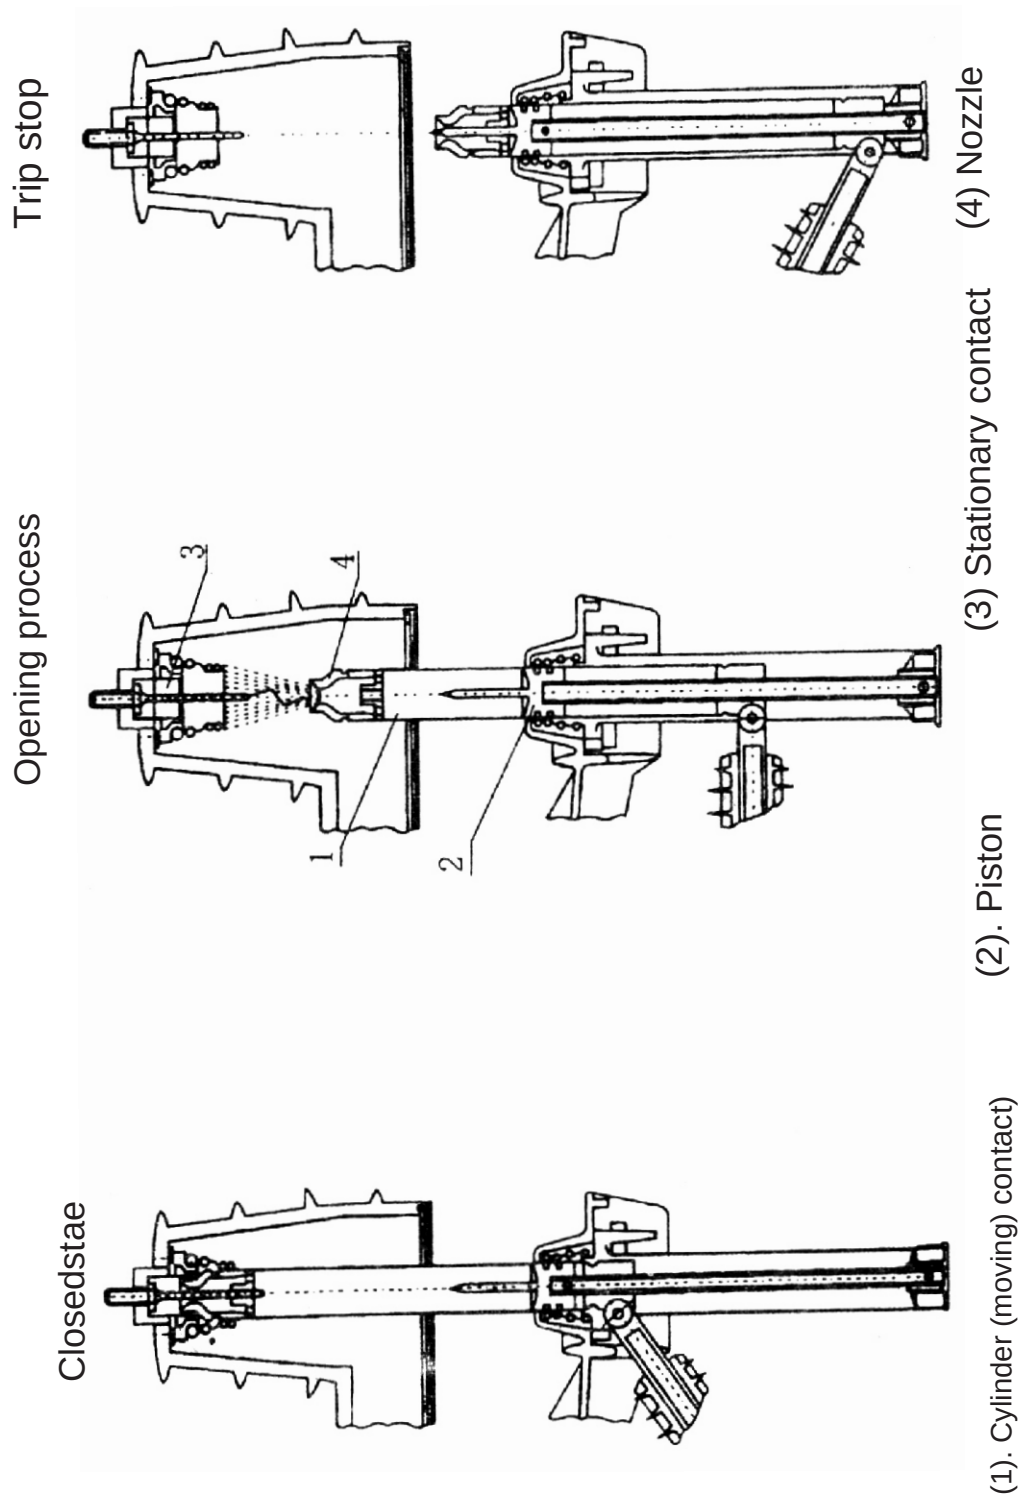

Figure 4 Schematic diagram of load switch tripping process
3.1.2 The opening process is shown in Figure 4.
The cabinet is equipped with a door lock [installation dimensions are shown in Figure 4 (Type A door lock) and Figure 5 (Type B door lock)]. The door lock works in conjunction with the door pin on the switch. The door pin is locked to the locking sleeve in the grounding shaft operating hole. The motor power supply is also locked to the grounding switch. When the door lock is not properly locked (i.e., the cabinet door is not closed), the door pin is still inserted in the locking sleeve of the grounding shaft operating hole. Therefore, the operating handle cannot be inserted into the grounding shaft operating hole, and manual operation is not possible. At the same time, the motor operating power is not connected, and electric operation is not possible. Only after the door lock is properly locked (i.e., the cabinet door is closed) can the operating handle be inserted into the grounding shaft operating hole. Turning the handle opens the grounding switch for manual operation, and the power supply is also connected, allowing for electric operation.